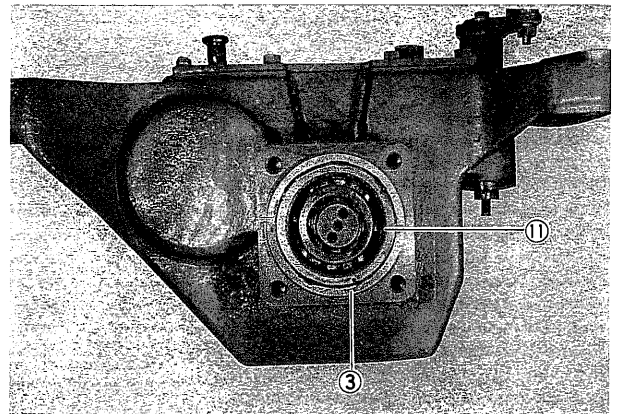

Fig. 33
- (5) Take off oil seal (11) and retaining ring (3). (Fig. 33)